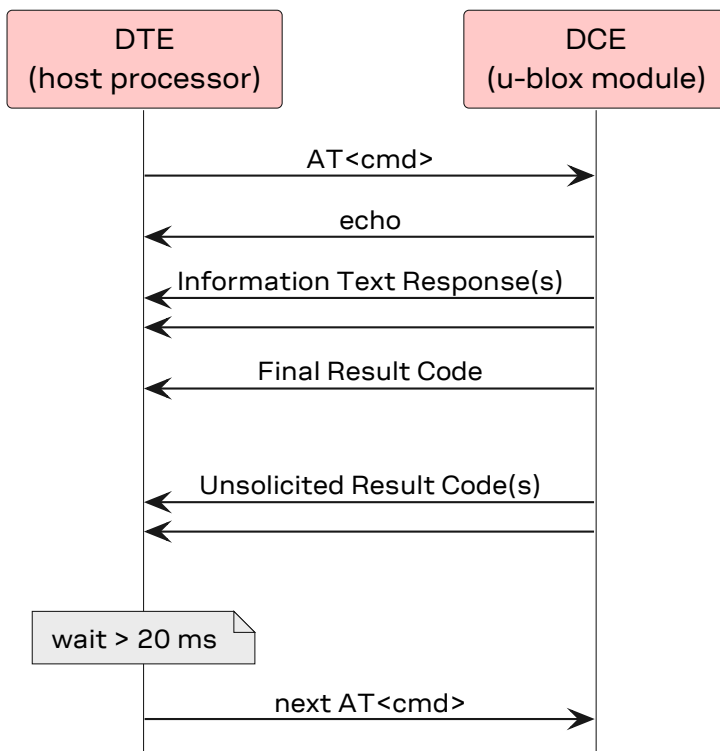

Figure 4: Sequence diagram of a generic AT command
- Always wait for at least 20 ms following a final result code or a URC reception before issuing a new AT command (see Figure 4). This delay allows the module to issue possible buffered URCs.